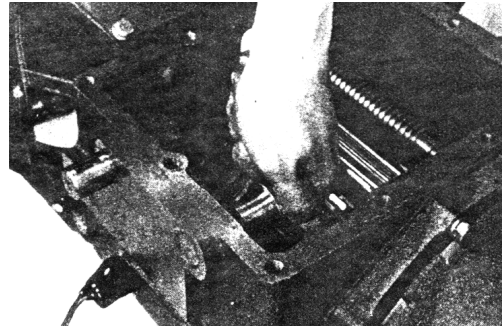

Fig. 3-19
(7) Knock at the end of the rotating rod slightly but not heavily and remove the rod (See Fig. 3-19).